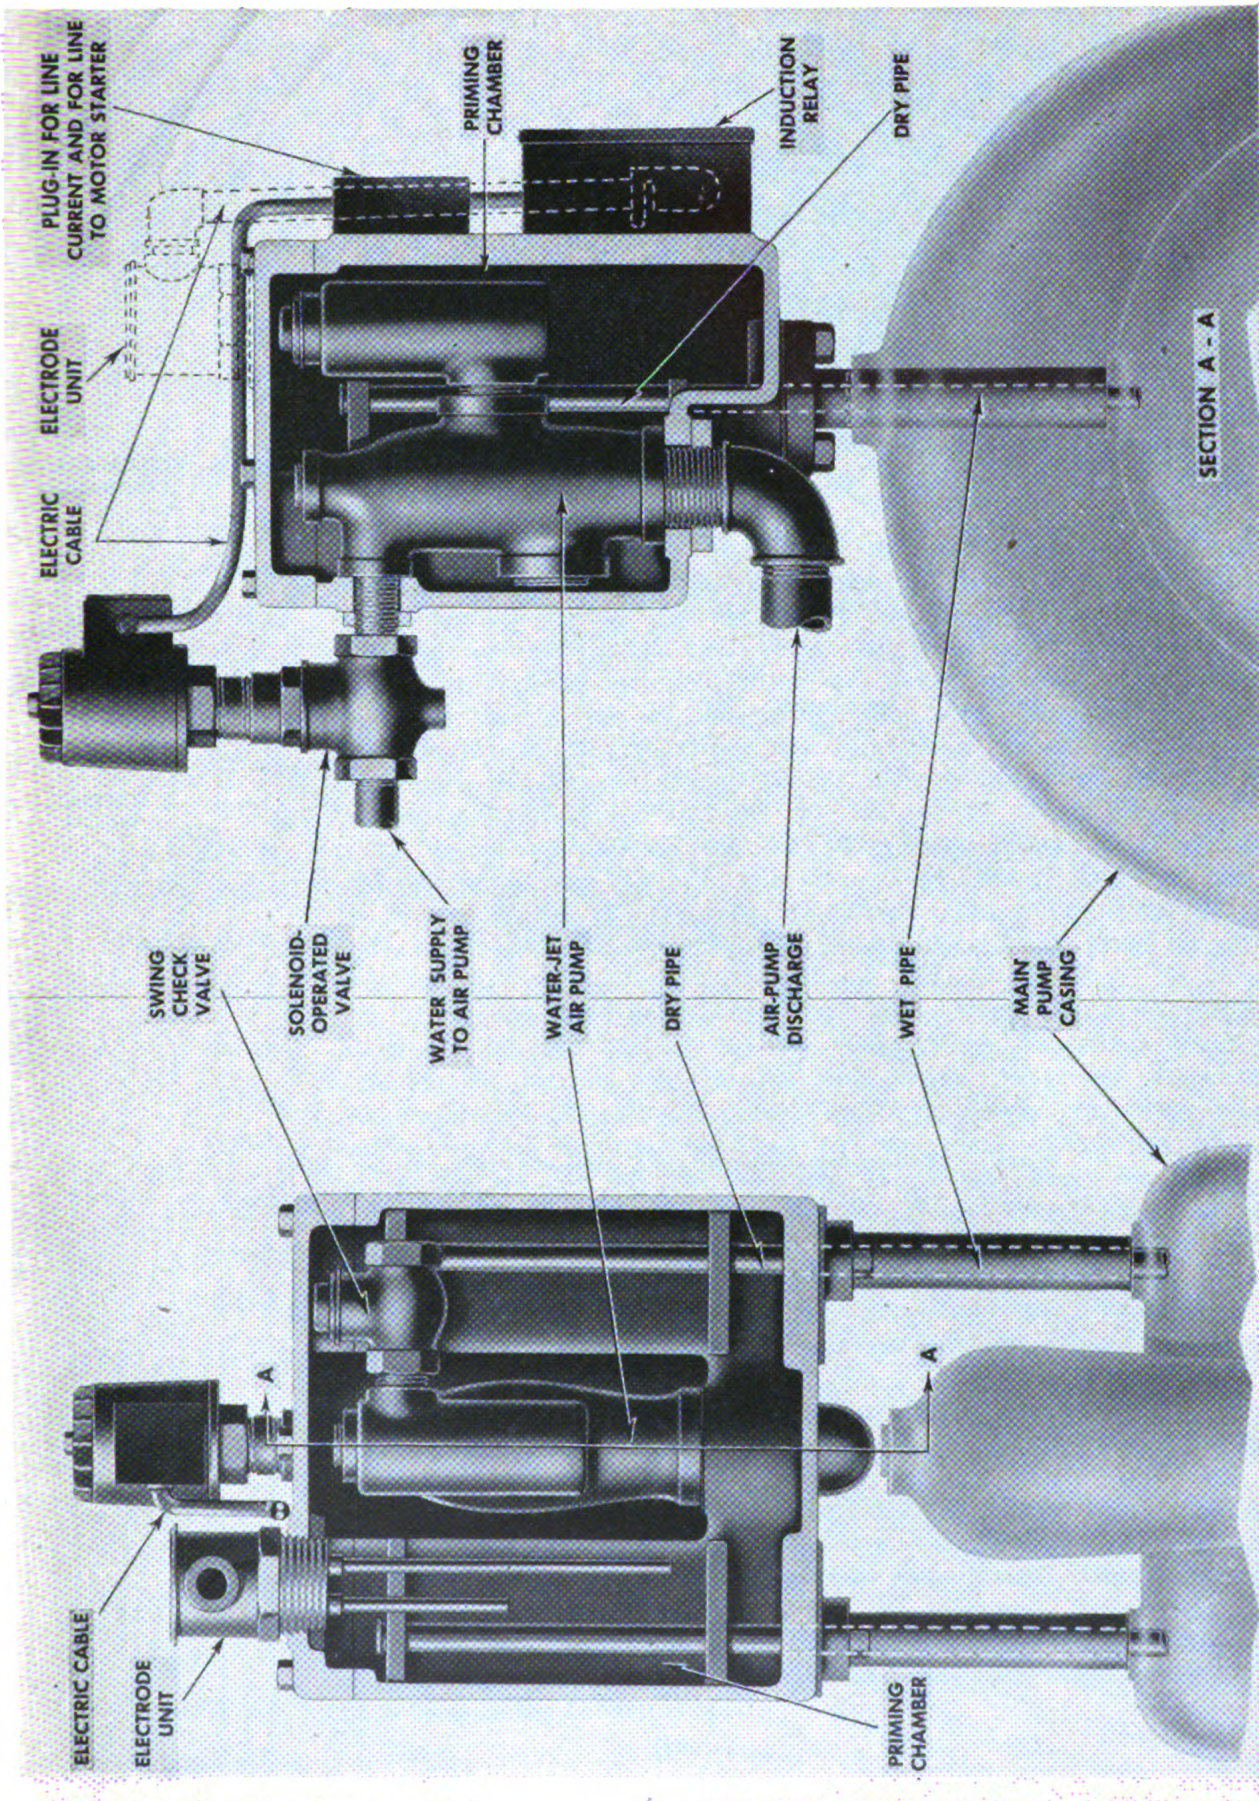

Figure 49. DeLaval submerged suction priming system with ejector, electrodes, solenoid, and relay.
b. Inspect DeLaval System. Check ejector, electrodes, solenoids, relays, and check valves. (See fig. 49.)